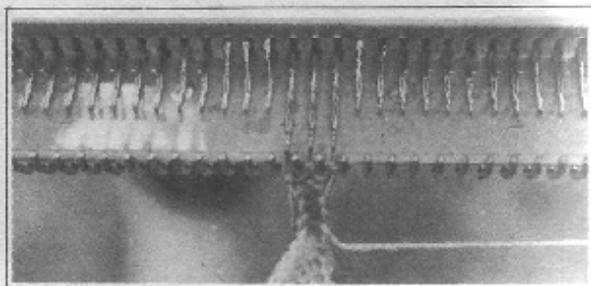

Fig. 5
8. Thread another yarn through carriage yarn feeder and knit five or six rows. Break off the wool and remove this fabric from the needles. (Fig. 5)